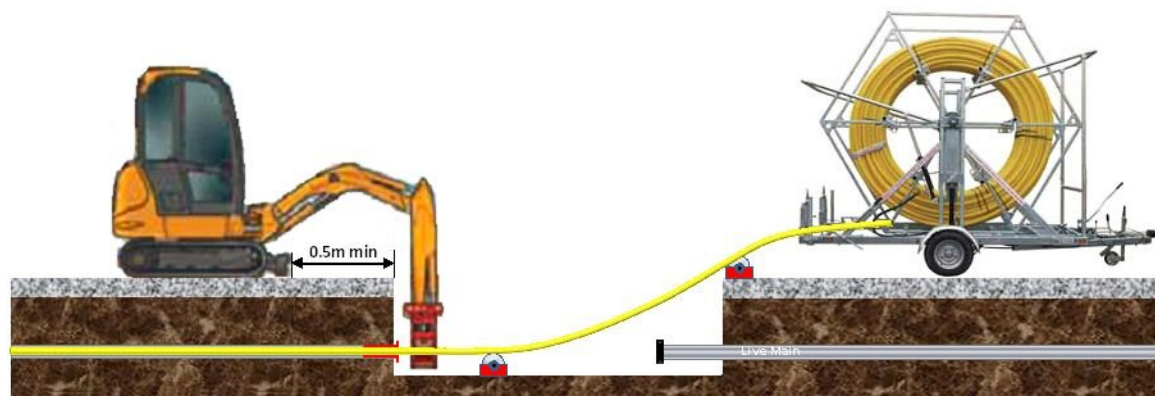

Figure 7 - Typical Insertion Coil Layout - Elevation
1. Position excavator over the host main with the insertion action moving towards the excavation see Figure 7.